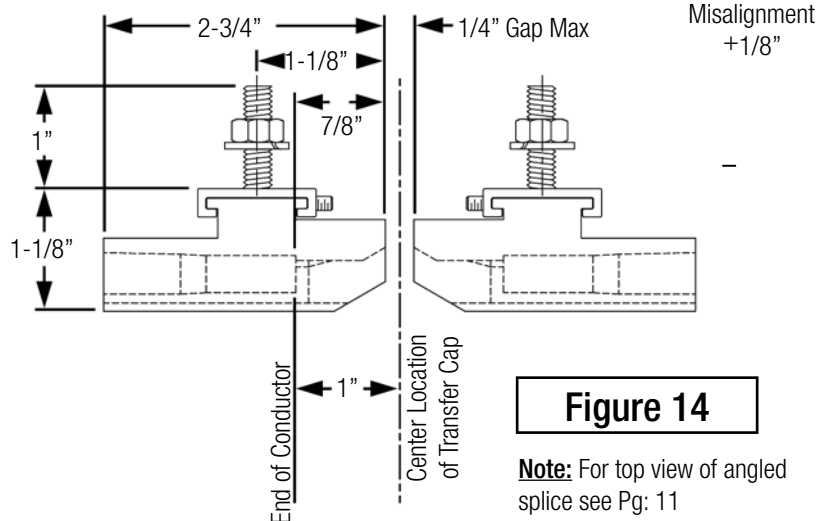

Figure 14
2.8 Transfer Cap (See Figure 14)